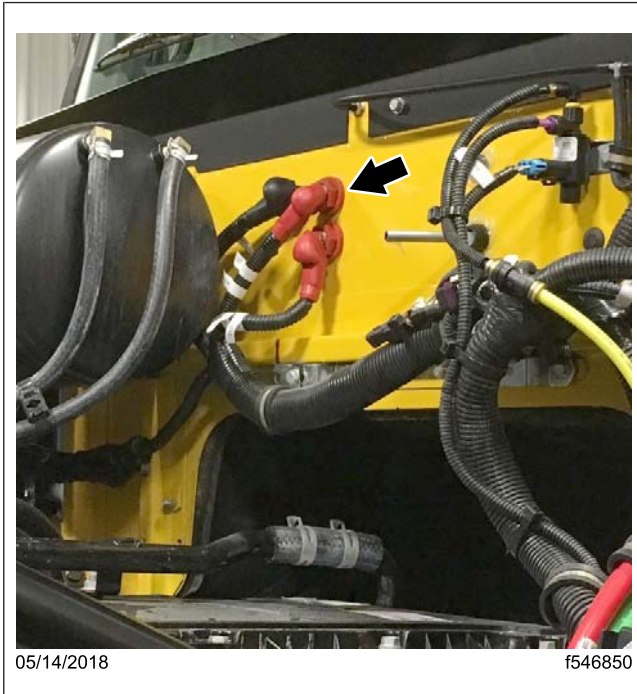

Fig. 1, Power Cable Stud Connector Location
3. Open the hood and locate the three power cable stud connectors on the front wall. See Fig. 1.